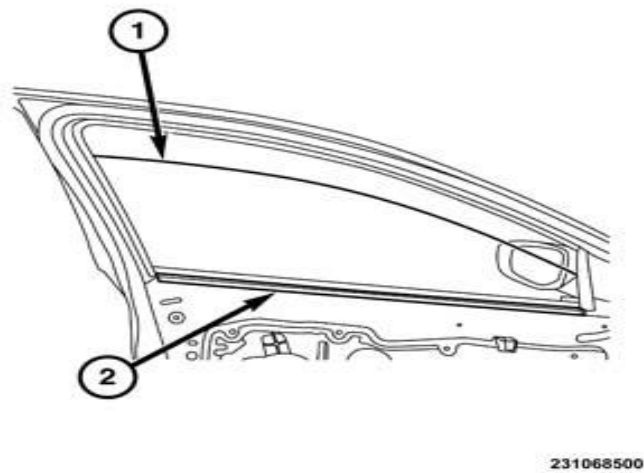

Fig. 5 Belt Weatherstrip Removal
12. Using C-4755 or equivalent, pry upward to remove the inner door belt weatherstrip (2) to allow the door glass (1) clearance (Fig. 5).